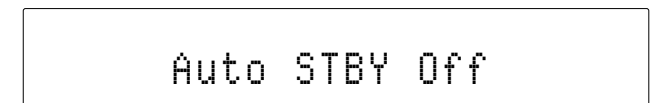

Figure 44
1. Using the MCT80 Remote Control, press and hold in the ⏻ (Power) Push-button for about 5-10 seconds, at which time the Front Panel Display indicates "Auto STBY Off". Refer to figure 44.